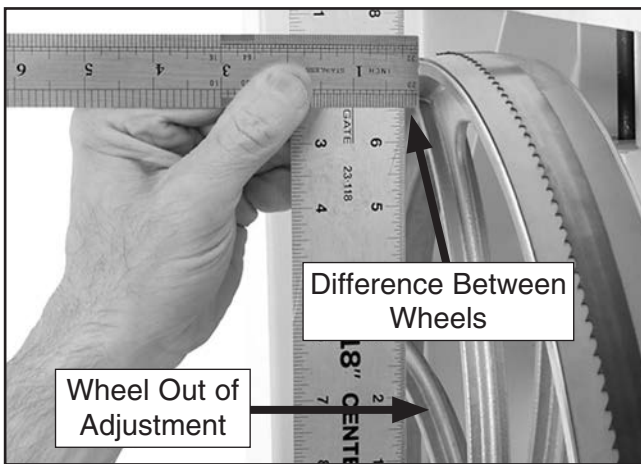

Figure 106 Determining distance needed to shim upper wheel.
3. With a straightedge touching both points of the wheel that does not need to be adjusted, measure the distance away from the wheel that is out of adjustment (see **Figure 106**).